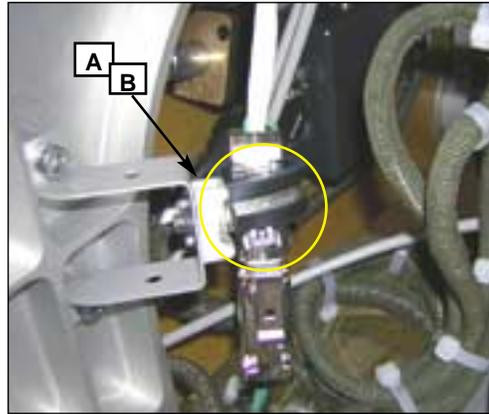

FIG. 306:
- (1) Move the seat in recline position. Then, disconnect manual release cables (seat pan/legrest/backrest/aisle armrest) from their respective actuators.
- (2) Unplug aisle armrest actuator connector by removing screw (A) and clamp (B) (see fig. 306).